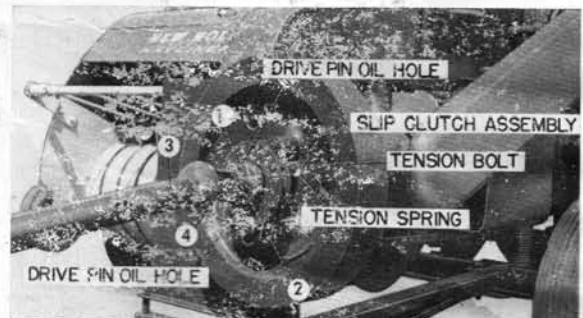

FIGURE 2
Oil the drive pins of the over-running clutch (Figure 2) with several drops of light machine oil before operating the baler. When the baler is in operation, these pins should be lubricated with two or three drops of oil daily.
1. & 2. Figure 2—Over-riding clutch pins. Oil sparingly with light oil.
3. Figure 2—Telescoping shaft
4. Figure 2—Rear Universal Joint